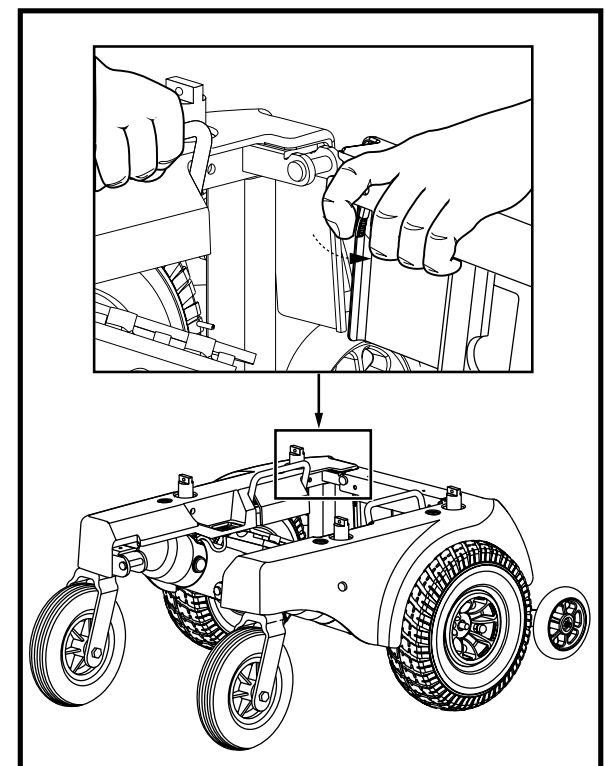

Figure 18. Power Base Frame Removal/Installation
9. Stand behind your power chair and grasp one of the power base frame assembly handles. See figure 18.
3. Pivot the front frame top bar toward the power base frame assembly and push the front frame top bar onto the locking mechanism until the two assemblies snap securely into place. See figure 18.